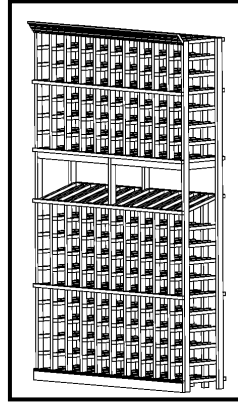

**Figure 5**
- I.** Nail through the spreader bar (**B**) and into the upright on each side (see **figure 5** previous page), keeping the spreader level.
- J.** Attach spreaders at two more locations as noted in **figure 5**, one near top and one near bottom of the assembly.
- K.** Now move the two outside columns to each side of the middle two, putting the sides with beveled spacer bars to the inside and against the other bevels. Spread the backs apart approximately 6" as before. Attach spreader bars (**B**) to each side being careful to line them up with the ones already attached. See **figure 5**.